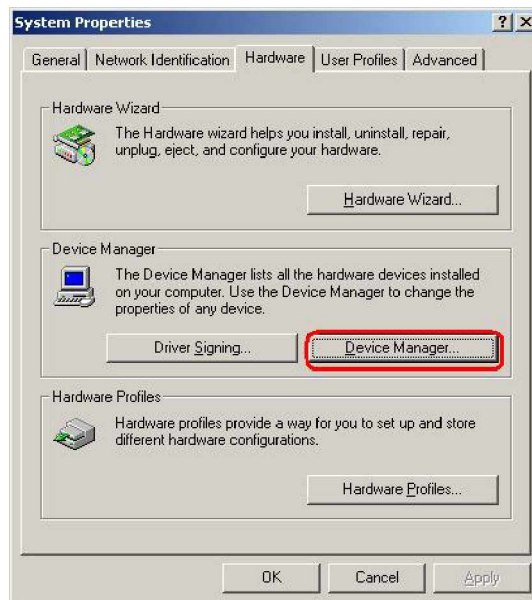

Figure 6-33: Double Click the Device Manager Tab
Step 3: Double click the **Device Manager** tab (**Figure 6-33**).